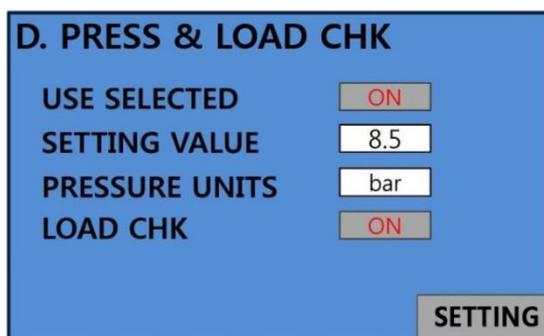

Figure 18. D.Press Setting & load chk Screen
D.Press & LOAD CHK monitors the alarm by the pressure sensor (when applied to the pressure sensor) and the load factor of the pump to detect when there is a problem with the discharge due to the hardening of the dispensing tip during Dispenser shot. You can set the function. The setting screen is displayed as shown in <Fig. 18>.